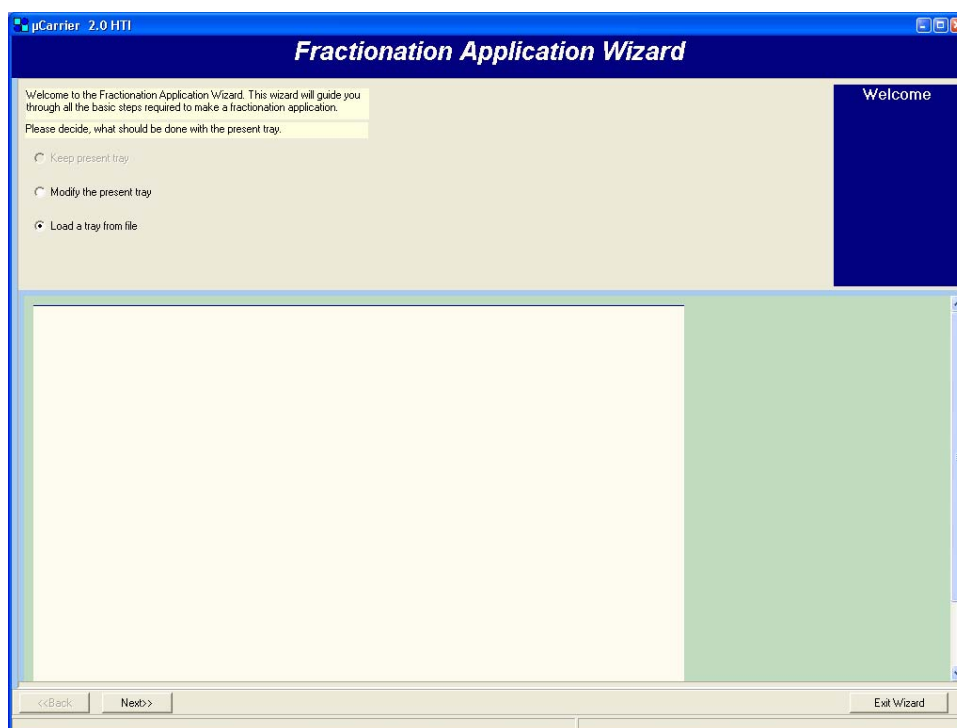

FIGURE 2-35 The Fractionation Application Wizard – Welcome Screen
d) The *Fractionation Application Wizard* is presented (FIGURE 2-35). Select a 'Load a tray from a file' option and confirm with the **Next** button.